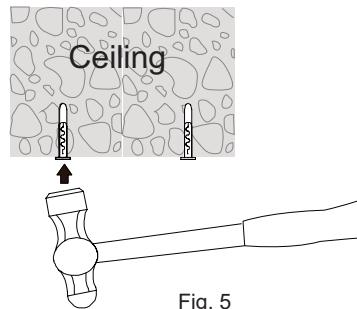

Fig. 5
- Step 5: Knock the plastic expansion screw into the hole which you drill (as Fig.5)